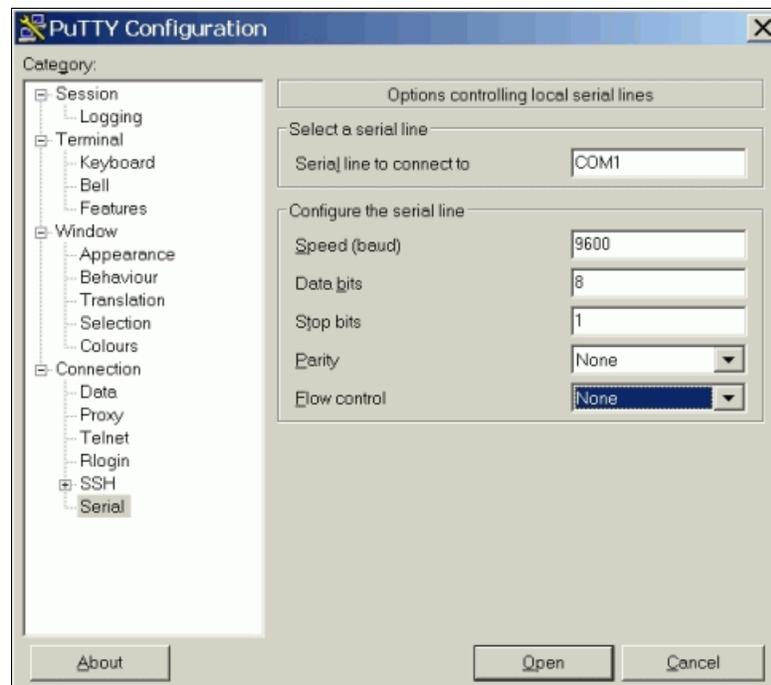

Figure A-1 PuTTY
1. Set the following communications parameters of your system (Table A-22). For example, you can use hyperterminal or putty for Windows users (see Figure A-1) and for Linux users you can use a terminal program like minicom or screen.